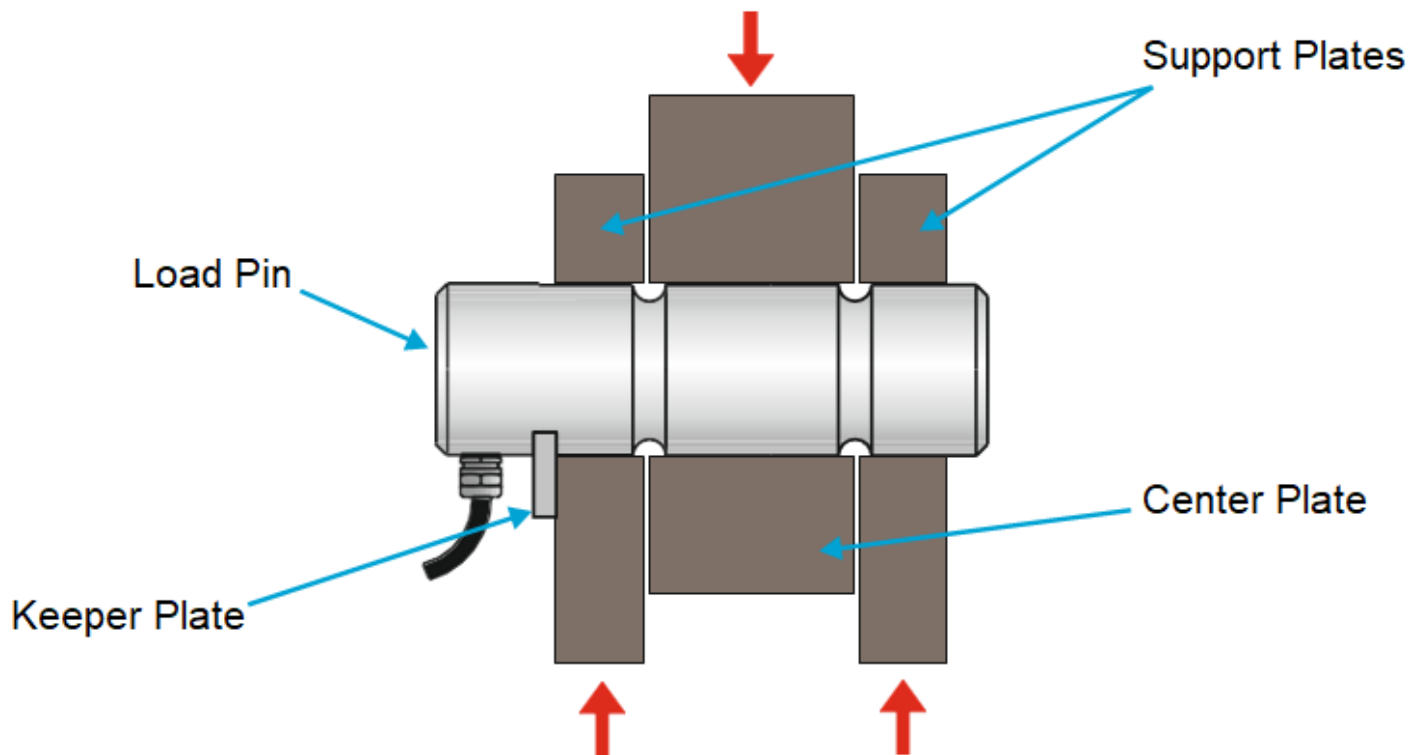

FIGURE 2
- Ensure that both the support plates and the centered plate (or sheave) do not bridge the grooves on the load pin. See Figure 2 for example of correct positioning.